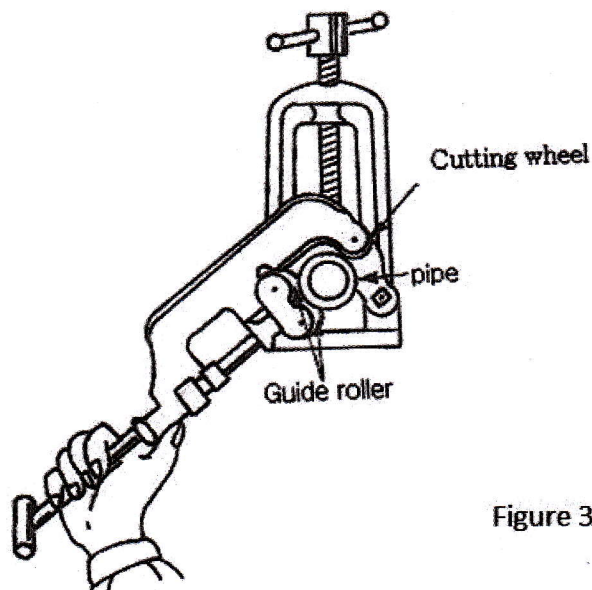

Figure 3
21. Observe the illustration of the figure 3 given below; give the name of operation performed and the procedure to be followed.